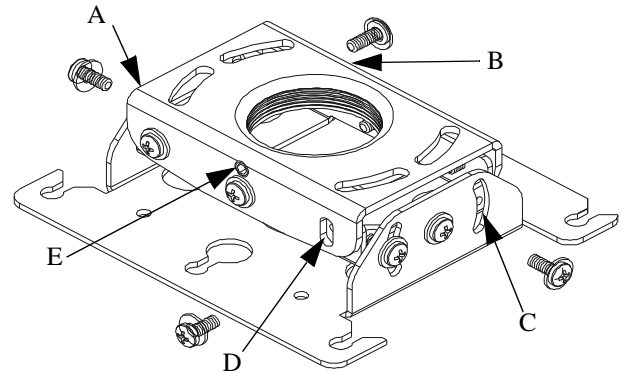
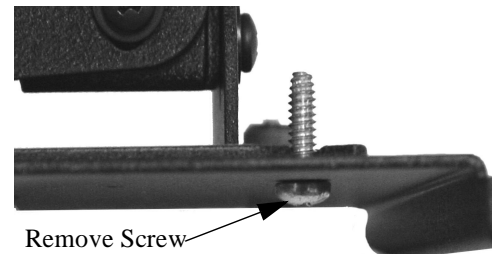

Figure 9. Remove and Replace Screws and Set Screw
Figure 10. Remove Adjacent Screws
1. Remove four screws (A thru D) (see Figure 9).
3. Using security wrench (provided), remove 5/16" standard set screw (E) and replace with 5/16" security set screw.
4. Remove two screws from SLB, preferably one from each far corner (see Figure 10).